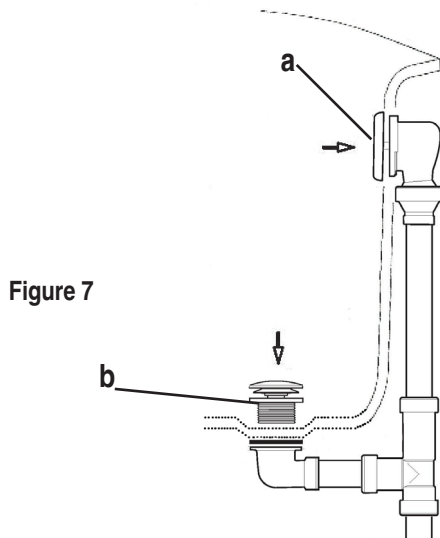

Figure 7
- Position the drain assembly so that the waste body is aligned with the bath waste and the overflow body is aligned with the bath overflow. Also ensure that the tee is held squarely with both the bath overflow and waste bodies (Figure 7).
- Replace (screw) the overflow clamp plate and ferrule onto the overflow body so that it secures the overflow body to the bath at the overflow outlet. Install the overflow coverplate. [Figure 7 (a)]
- Replace (screw) the soft-toe touch assembly [Figure 7 (b)] onto the waste body so that it secures the waste body to the bath at the waste outlet. **Note:** Use plumbers putty (not supplied) between the bath and the soft toe-touch assembly [Figure 7 (b)].